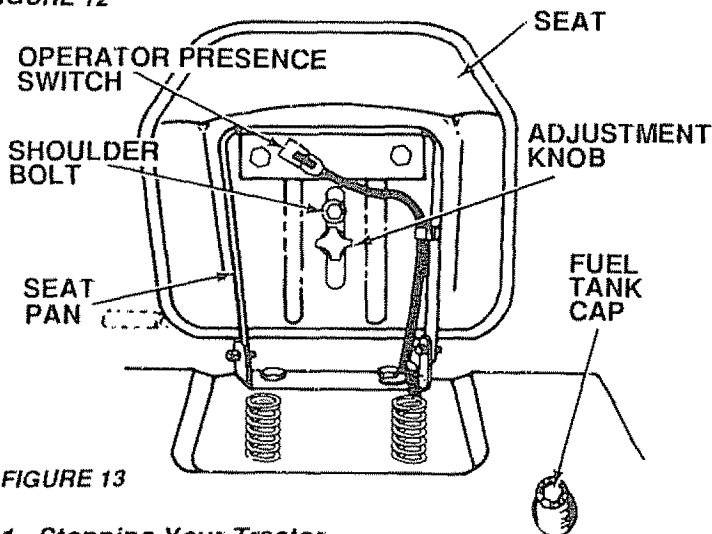

FIGURE 13
- b. Fill fuel tank (Fig 13) Use fresh, clean, regular unleaded gasoline. (Use of leaded gasoline will increase carbon and lead oxide deposits and reduce valve life.) Capacity is 13 litres (3-1/2 gallons)